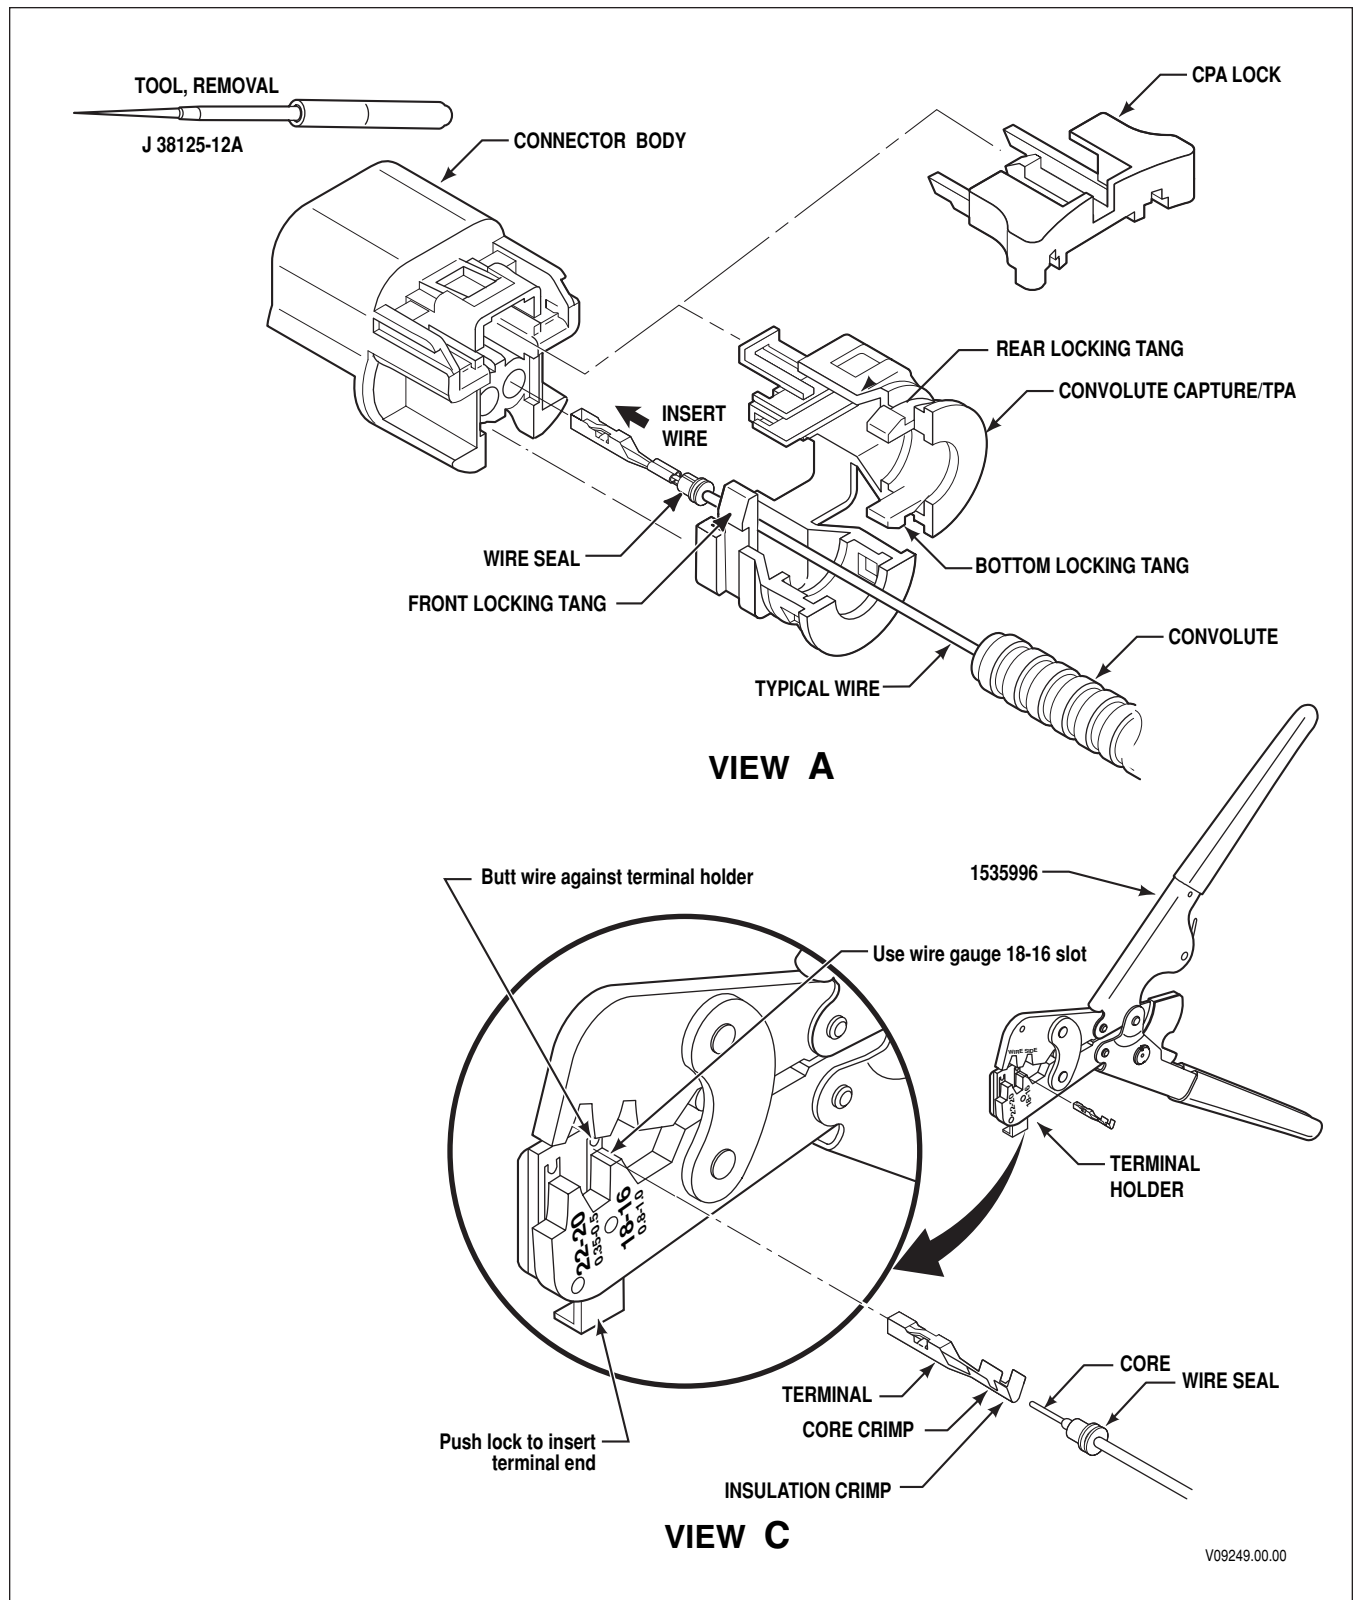

Figure E-5A. Delphi-Packard GT 150 Series Connectors—Push-to-Seat (Speed Sensors)
A. Connector /Terminal Repairs (refer to Figures E-5A and E-5B)